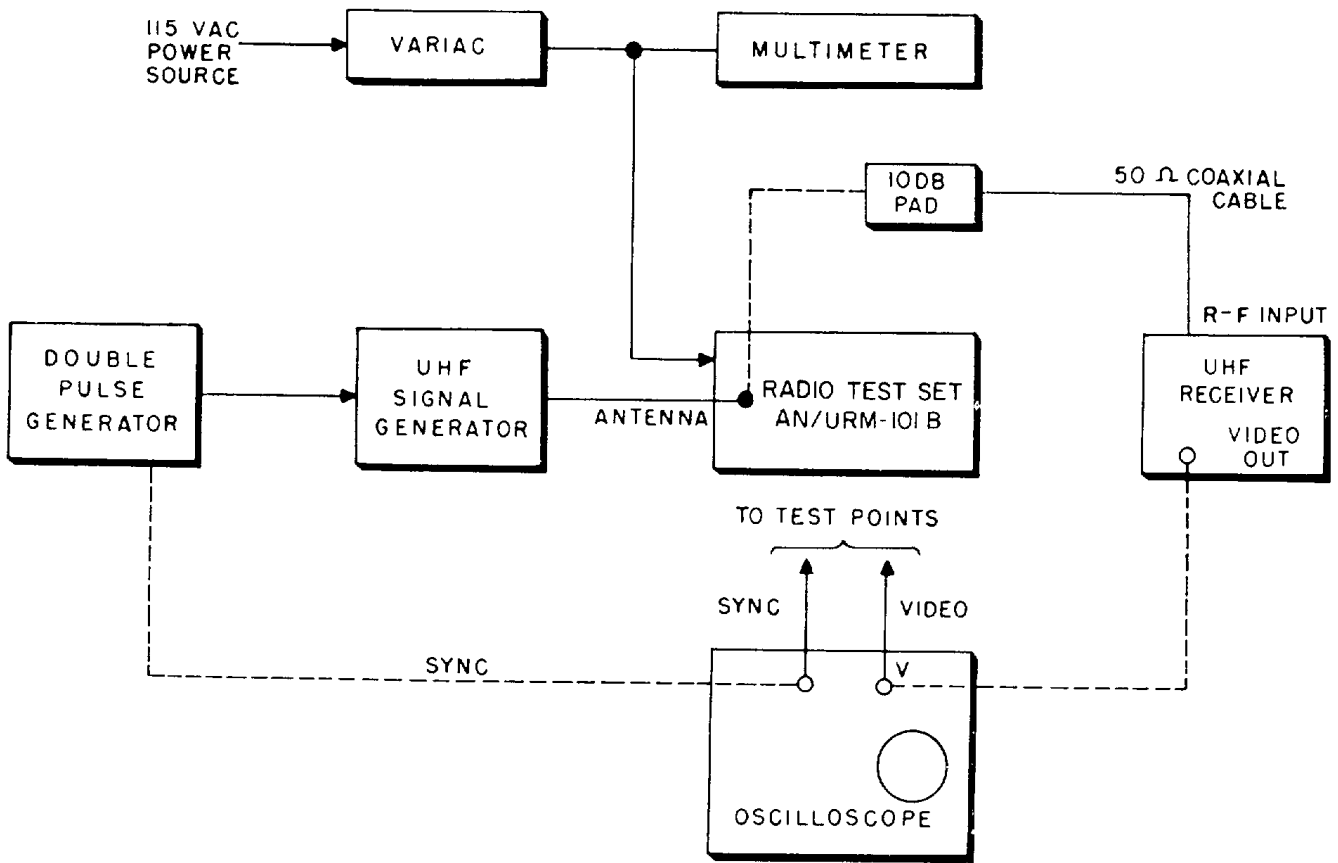

Figure 7-4. Calibration Equipment Setup
identify the test points and adjustments and their physical locations on the equipment. Table 7-1 lists the equipment required for calibration, and figure 7-4 illustrates the general test equipment setup used during calibration.
**7-8. ADJUSTMENT OF THE IDENTITY-TO-EQUALIZING PULSE SPACING.** To adjust the identity-to-equalizing pulse spacing, set up the test equipment with the test set as shown in figure 7-4. Proceed as follows:
Using test equipment setup as in figure 7-4, adjust 9:1 countdown output as follows:
**a.** Using equipment setup per figure 7-4, connect the oscilloscope probe to test point TP204. Synchronize the oscilloscope with positive polarity from test point TP103, and set sweep speed to view auxiliary burst.
- b. Using test setup per figure 7-4, connect oscilloscope probe to test point TP302, and synchronize with positive polarity at test point TP104.
- c. Connect gain-calibrated uhf receiver through 10-db pad to ANTENNA receptacle. (See figure 7-4.)